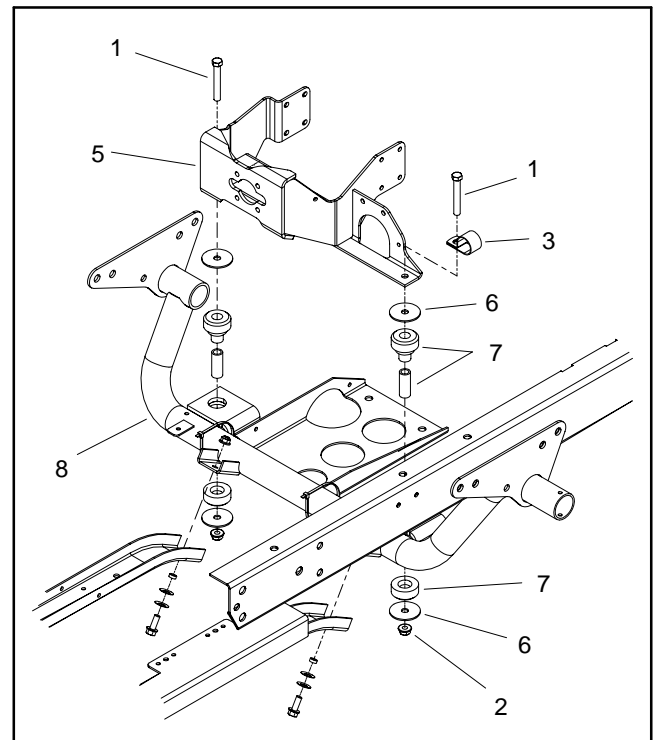

Figure 13
15. Loosen and remove two (2) flange nuts, snubbing washers and cap screws that secure engine mount to engine support (Fig. 13).
6. Make sure that snubbing washer is positioned on top of both engine mounts (Fig. 13).
9. Secure engine mount to engine support with two (2) cap screws, snubbing washers and flange nuts (Fig. 13).
12. Install upper and lower radiator hoses to engine and secure with hose clamps. Install R-clamp (item 35) to secure lower radiator hose to engine mount.